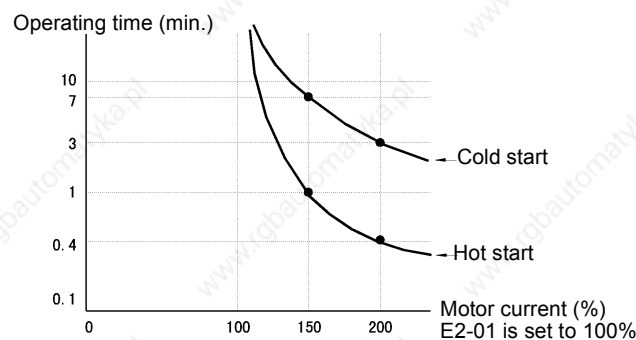

Fig 6.52 Motor Protection Operation Time
*Fig 6.52* shows an example of the characteristics of the electronic thermal protection operation time (L1-02 = 1.0 min., operation at 60 Hz, general-purpose motor characteristics, when L1-01 is set to 1)